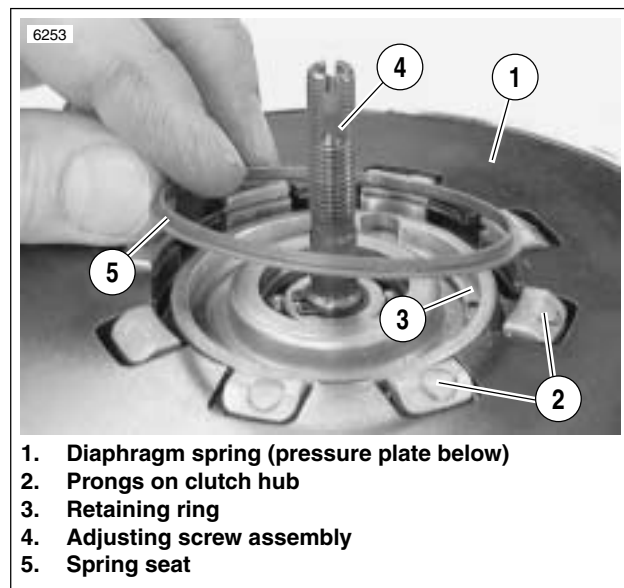

Figure 6-20. Spring Seat Installation
- a. See Figure 6-20. Align square openings of pressure plate and diaphragm spring so that the assembly can be installed over prongs on clutch hub.